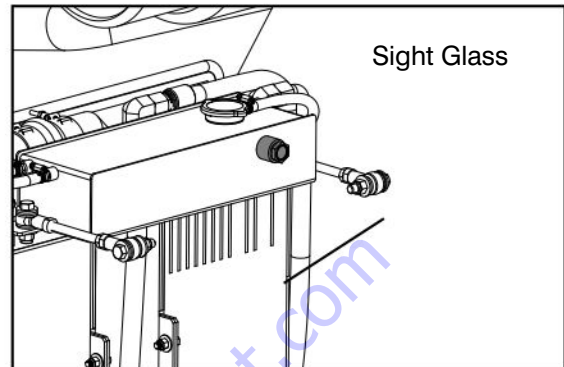

Figure 5-2 Recovery Bottle Location
5. Fill radiator completely through the reserve tank filler neck, until coolant is visible through the sight glass. See Figure 5-2.